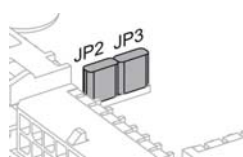

Figure 3-3 Jumpers JP2/JP3 (maxon DC motor with integrated Motor/Encoder Ribbon Cable)
- 2) Set jumpers JP2 and JP3 to "closed" position (→Figure 3-3):